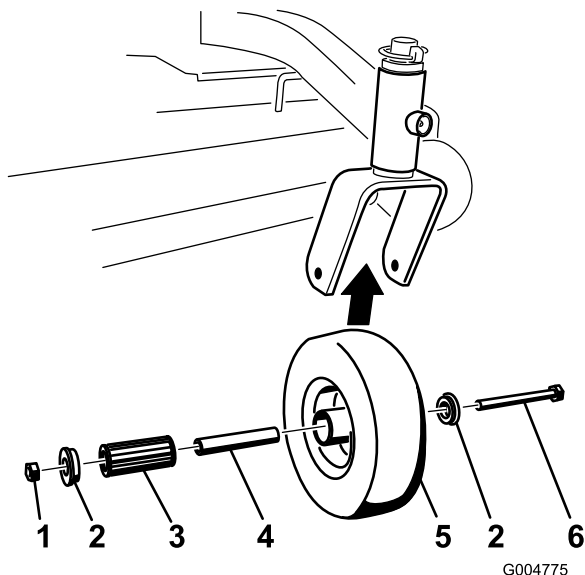

Figure 40
1. Remove the locknut and wheel bolt holding the caster wheel to the caster fork (Figure 40).
- Remove one bushing, then pull the spanner bushing and roller bearing out of the wheel hub (Figure 40).
- Remove the other bushing from the wheel hub and clean any grease and dirt from the wheel hub (Figure 40).
- Inspect the roller bearing, bushings, spanner bushing and inside of the wheel hub for wear. Replace any defective or worn parts (Figure 40).
- To assemble, place one bushing into the wheel hub. Grease the roller bearing and spanner bushing and slide them into the wheel hub. Place the second bushing into the wheel hub (Figure 40).
- Install the caster wheel into the caster fork and secure with the wheel bolt and locknut. Tighten the locknut until the spanner bushing bottoms against the inside of the caster forks (Figure 40).